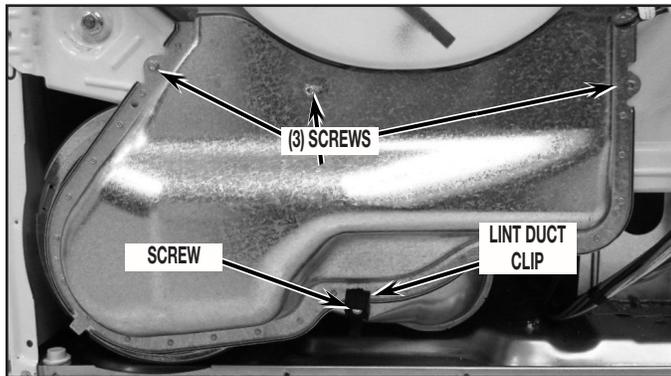

FIGURE 13
17. Remove lint duct by removing the four (4) screws and clip as shown in *Figure 13*.